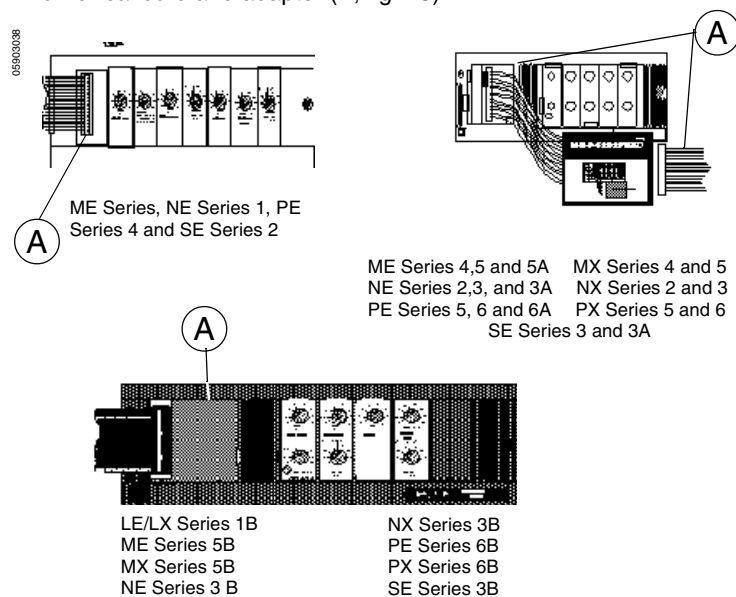

Figure 13: Orientation of Umbilical Cord and Adapter
15. Immediately install adapter SLOWLY into trip unit. Note orientation of umbilical cord and adapter (A, fig. 13).